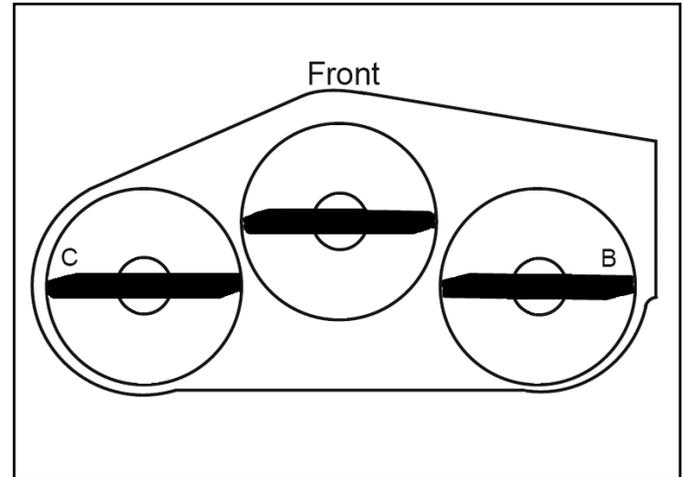

Fig 503
1. Position the right blade side-to-side (Fig. 503).
2. Measure the right blade at the **B** location, from a flat surface to the cutting edge of the blade tip (Fig. 503).
4. Position the left blade side-to-side (Fig. 503).
5. Measure the left blade at the **C** location (Fig. 503), from a flat surface to the cutting edge of the blade tip.